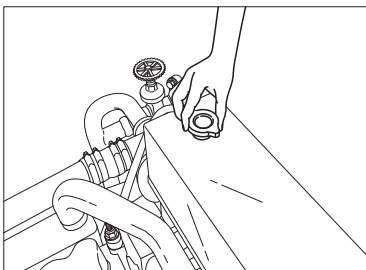
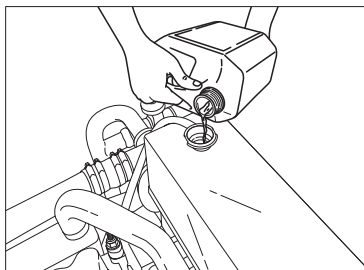

Figure 4.2
Figure 4.3
2. The coolant can be filled from the heat exchanger. Remove the cap provided on the top (figure 4.2) and slowly fill the cooling system with recommended coolant (figure 4.3). Slowly filling the coolant will help the air to escape without trapping in the system.